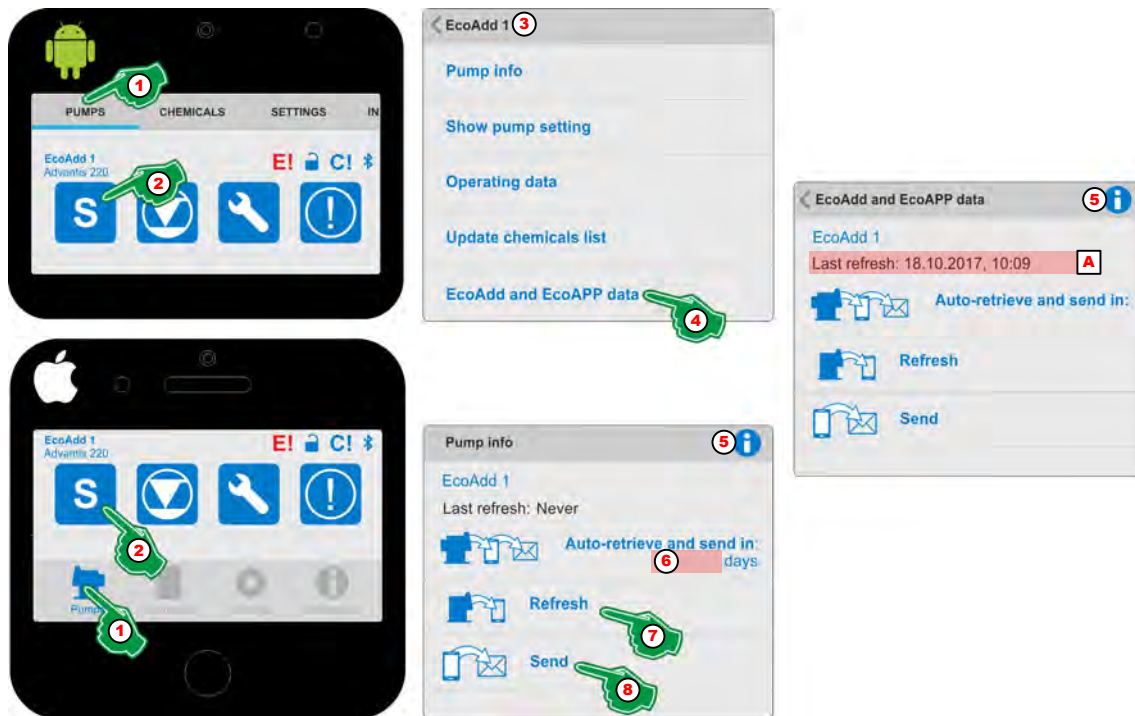

Fig. 29: EcoAdd and EcoAPP data
1. ▶ Select Menu [Pumps] (Fig. 29, Pos. 1).
2. ▶ Select 'Dosing mode' Symbol (Fig. 29, Pos. 2).
3. ▶ To check which pump is currently displaying data, click on header (Fig. 29, Pos. 3) in which the selected pump is displayed.
4. ▶ Select [EcoAdd and EcoAPP data] (Fig. 29, Pos. 4).
5. ▶ With the selection of the [Info] ⓘ Symbol (Fig. 29, Pos. 5), the display will be:
6. ▶ Set [Auto-retrieve and send in _____ days] (Fig. 29, Pos. 6).
7. ▶ Select [Refresh] (Fig. 29, Pos. 7).
The date of the last update is displayed (Fig. 29, Pos. A) as soon as the data has been updated for the first time.
8. ▶ Select [Send] (Fig. 29, Pos. 8).